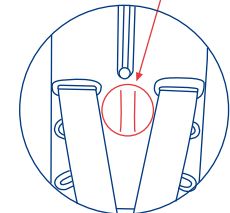
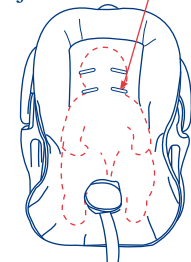

Fig. 31-1
Fig. 31-2
- Remove the Safety Seat from the Base and rotate the Carry Handle to the non rocking position. Place your child in the Safety Seat such that your child's bottom is all the way to the rear and bottom of the seat. (See Fig. 32-1) Rotate the knob behind the seat back to raise or lower the moving seat back and harness straps. Knob must remain in vertical position after adjustment. (Fig. 31-1) The Harness Straps must be even with or just below the child's shoulders. (Fig. 31-2) **DO NOT** use the Safety Seat with the Harness adjusted above the child's shoulders as the child will not be held securely in a sharp turn, sudden stop, or crash.
The fixed seat back version of the Safety Seat features three height adjustments for the harness shoulder straps. **The harness straps must be used in the slots that position the straps to be even with or just below your child's shoulders.** (See Fig. 31-1) The harness straps are adjusted as follows: